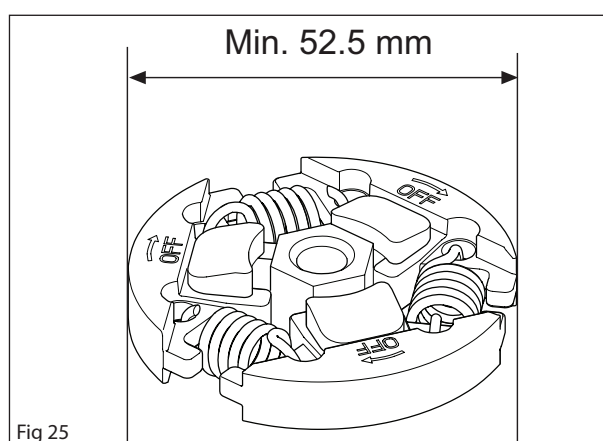

Fig 25
- Check the thickness of the clutch shoes by measuring them with slide callipers across the whole clutch hub. If the thickness is below 52,5 mm, the entire clutch must be replaced. See Figure 25.